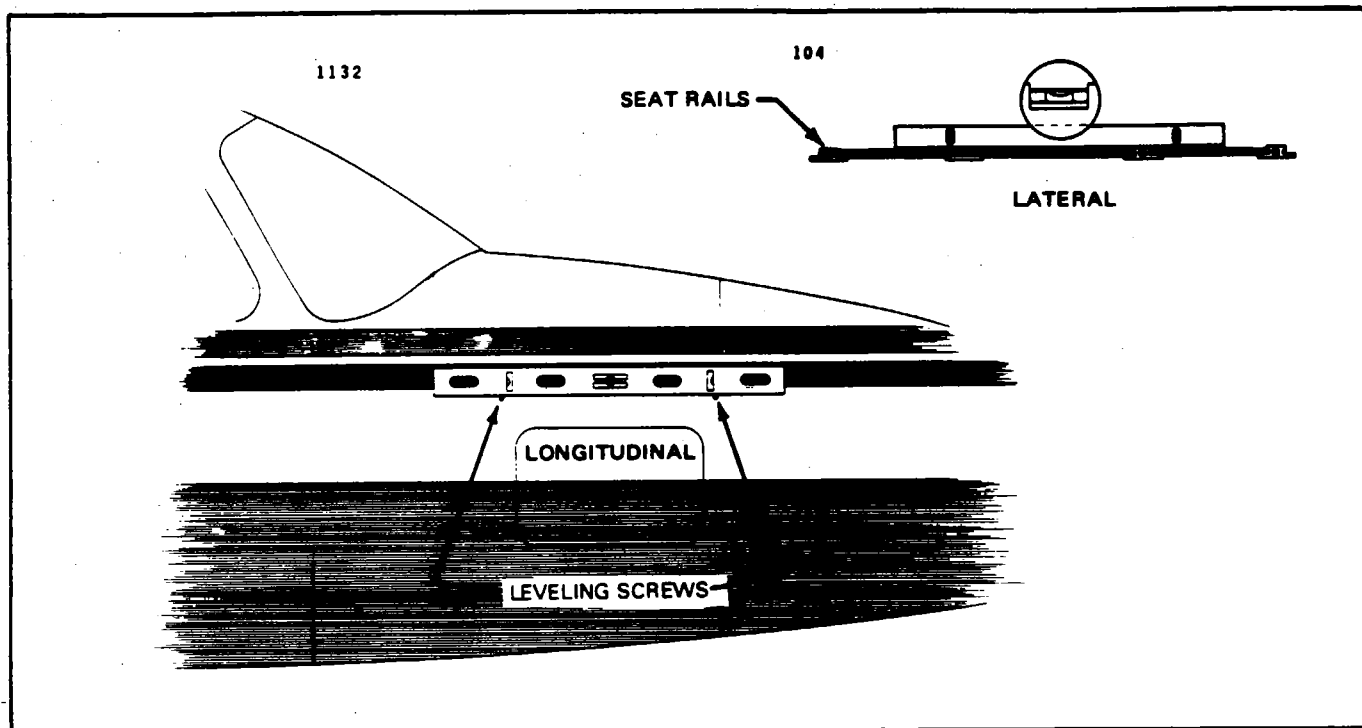

Figure 2-7. Leveling - Longitudinal and Lateral
- a. To longitudinally level the airplane, partially withdraw the two leveling screws located on the right side of the fuselage nose section at station 57.00 and 35.00 (Refer to Figure 2-7.) Place a spirit level on these screw heads and deflate the nose wheel tire or adjust the jacks until the bubble of the level is centered.
- b. To laterally level the airplane, place a spirit level across the two center seat rails of the cabin (Refer to Figure 2-7) and deflate the tire on the high side of the airplane or adjust either jack until the bubble of the level is centered.